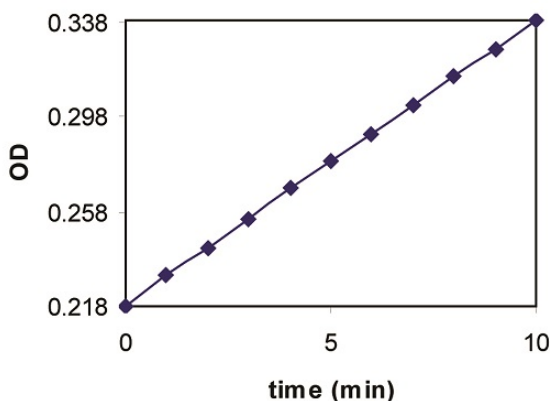

Figure 1. Plot of OD vs. time. Slope = $V = 1.20\text{E-}02$ OD/min
1. Plot data as OD versus time for each sample (see Fig. 1).